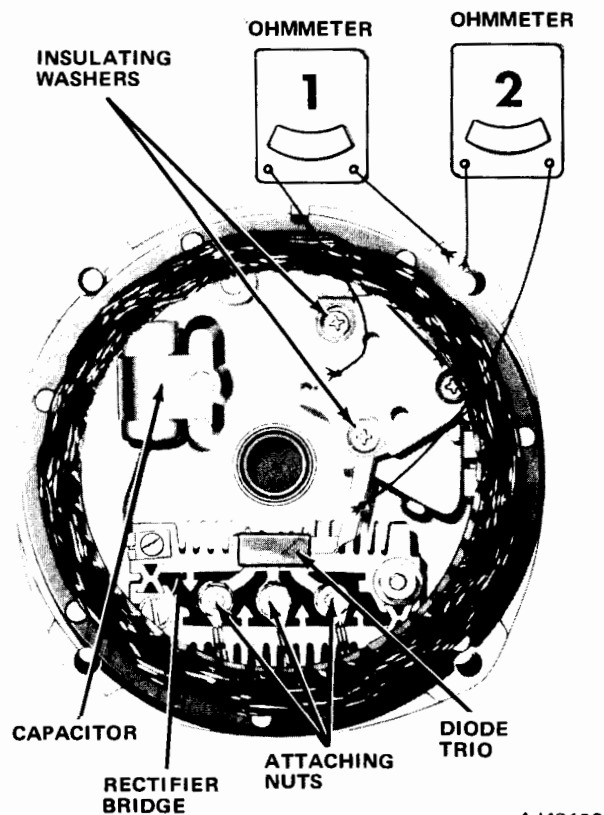

Fig. 3-32 Slip Ring End Frame Assembly
(1) Before removing the diode trio, connect an ohmmeter, using lowest range scale, from brush lead clip to end frame (fig. 3-32).
(2) Reverse lead connections. If both readings are zero, check for grounded brush lead clip caused by omission of insulating washer, omission of insulating sleeve over screw, or damaged insulation (fig. 3-32).
(3) Remove screw to inspect sleeve.